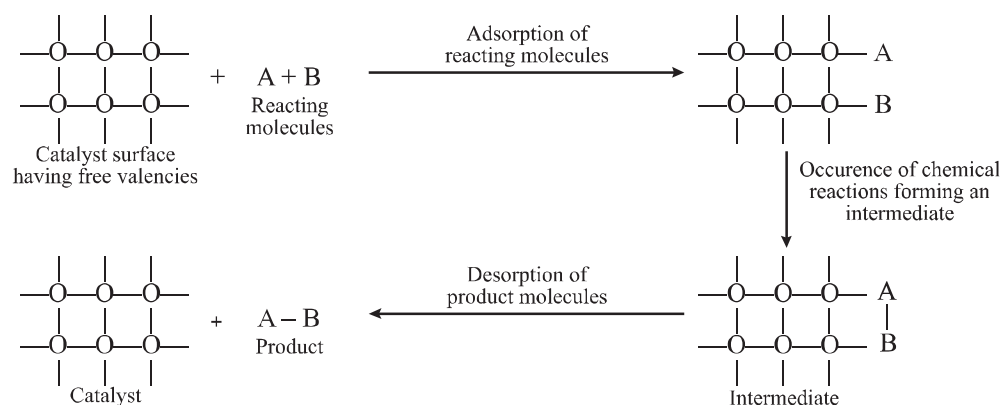

Fig. 5.3: Adsorption of reacting molecules, formation of intermediate and desorption of products
- Diffusion of products away from the surface of catalyst (Fig. 5.3).